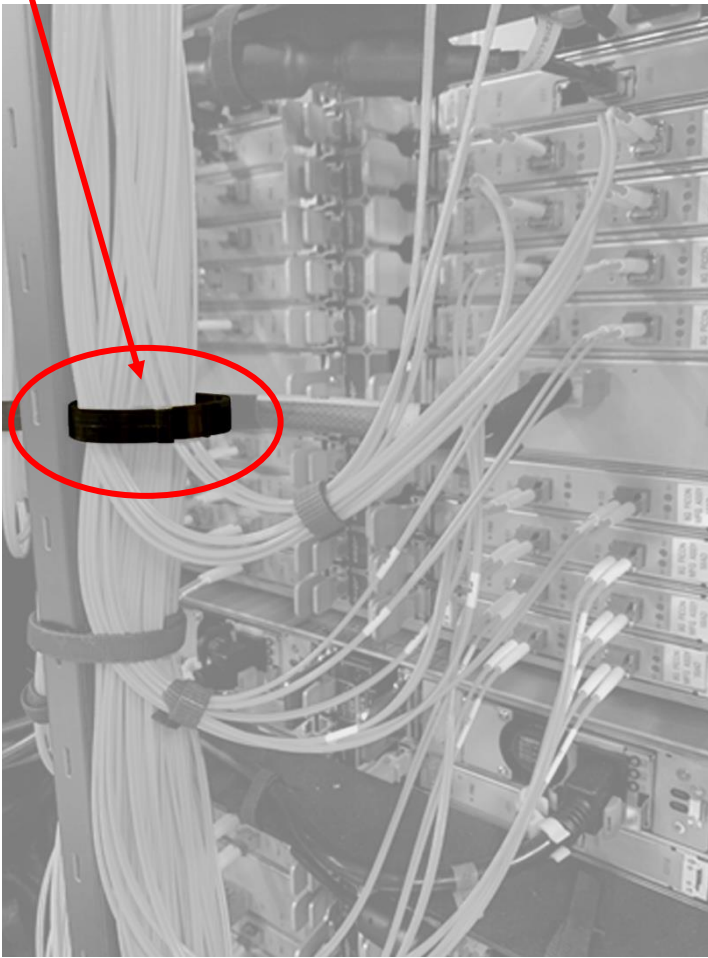

Figure 11: Spine Clips
- Spine/mini-spine Hardware Clip for Customer Fiber only (reference Figure 11)